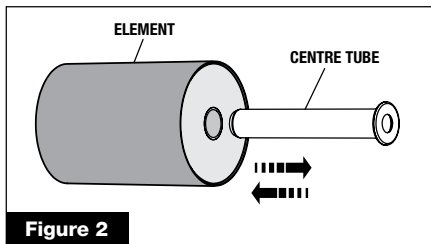

Figure 2
- 5 Remove the centre tubes from the old elements and retain (**figure 2**).
- 11 Insert the centre tubes into the new elements. Ensure they are fully inserted (**figure 2**).